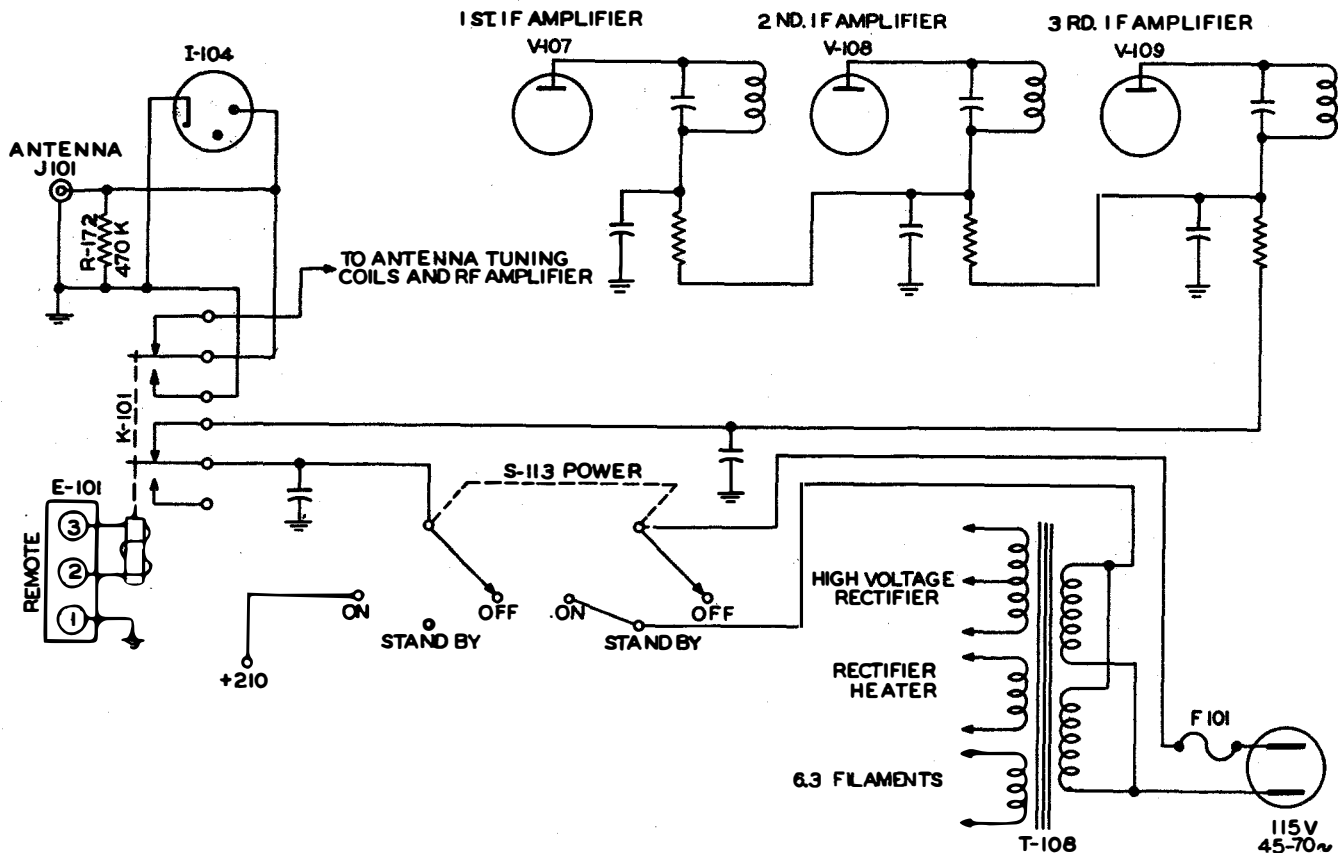

Figure 3-4. On-Off Standby Functions and Remote Operation Relay Circuit
b. REMOTE STANDBY CONNECTIONS. - Break-in relay connections are available at terminal strip E101 at the rear of the chassis. Terminals are marked 1, 2 and 3. Terminal 1 is connected to receiver ground. Terminals 2 and 3 are connected to the break-in relay coil, which is rated at 8.5 d-c volts minimum and 135 ohms d-c resistance. During operation, terminals 2 and 3 are usually connected in series with a source of voltage and a set of normally open contacts on the carrier control relay of a transmitter in order to silence the receiver during transmission. Refer to figure 3-4. When the break-in relay coil is energized, one pair of contacts shorts the antenna to ground; another pair, connected in series with a section of the OFF-STANDBY-ON switch, removes plate voltage from the three i-f amplifier stages. When using the remote relay, place the OFF-STANDBY-ON switch in the ON position. When this switch is placed in STANDBY position, it also removes plate voltage from the three i-f stages and thereby silences the receiver, however,